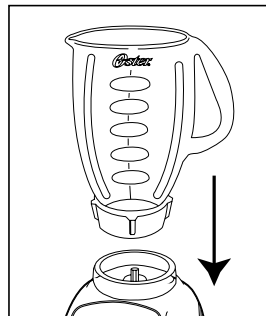

FIGURE 5
5. Place jar assembly onto base. (Figure 5). Line up tabs of jar with tabs on blender base. Make sure the tab of the jar on the left side is in the back of the tab on the blender base and the tab of the jar on the right side is in front of the tab of the blender base. Make sure jar is sealed into position.